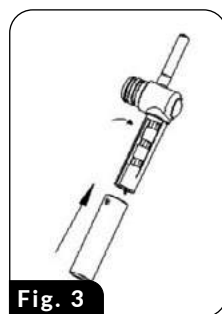

Fig. 3
- Place small cups on the sliding stand (6) after it has been pulled out.
- Two large holes in the stand (6) and the grate (9) are located directly below the holes where coffee in the portafilter flows out – this is an indication of how to place two small cups while brewing a double “Espresso”.
3. Place a large cup directly on the drip tray (9) – the stand (6) should then be slid in the device.
CAUTION! When brewing CAPPUCCINO or LATTE, make sure you have adjusted the nozzle of the steam wand (22). You can also adjust the length of the milk dispensing tube nozzle, blocking it in various length settings to adapt it to different cup sizes (Fig. 3).